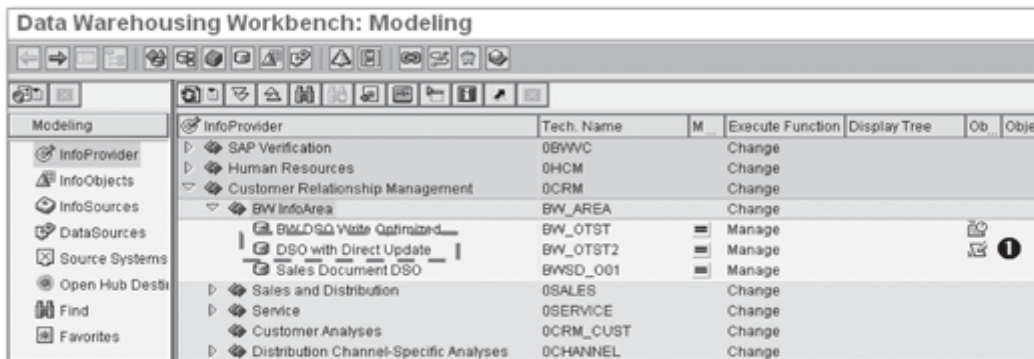

Figure 4.19 Direct Update DSO in DWW
Once activated, the direct update DSO is available in DWW under InfoProvider, as shown in ❶ of Figure 4.19. As you can see, it's indicated with an icon  that appears to the right of its technical name.